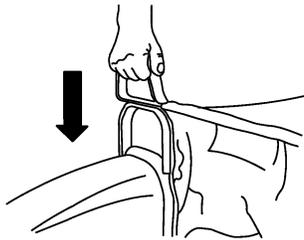

Figure 42
15. Grasp the bag assembly handle and slide it over the flange of the grass chute (Fig. 42). Push downward on the handle until it seats into position.